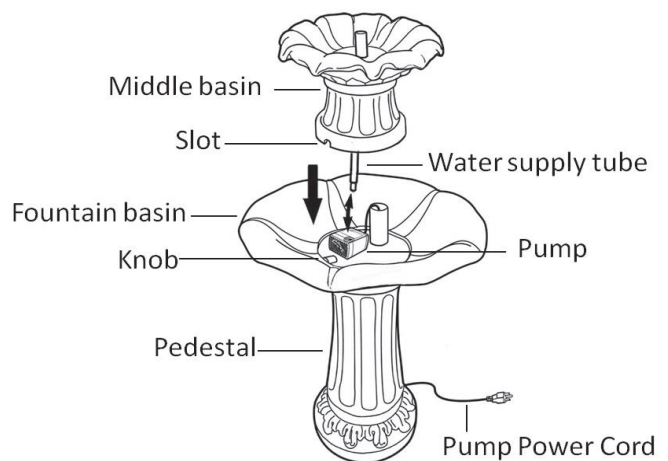

Fig. 2
4. Lead the water supply tube out from the bottom of middle basin. Insert the water supply tube into the pump outlet that on the top of the pump. Then place middle basin onto the fountain basin by the arrow.(Fig.2)